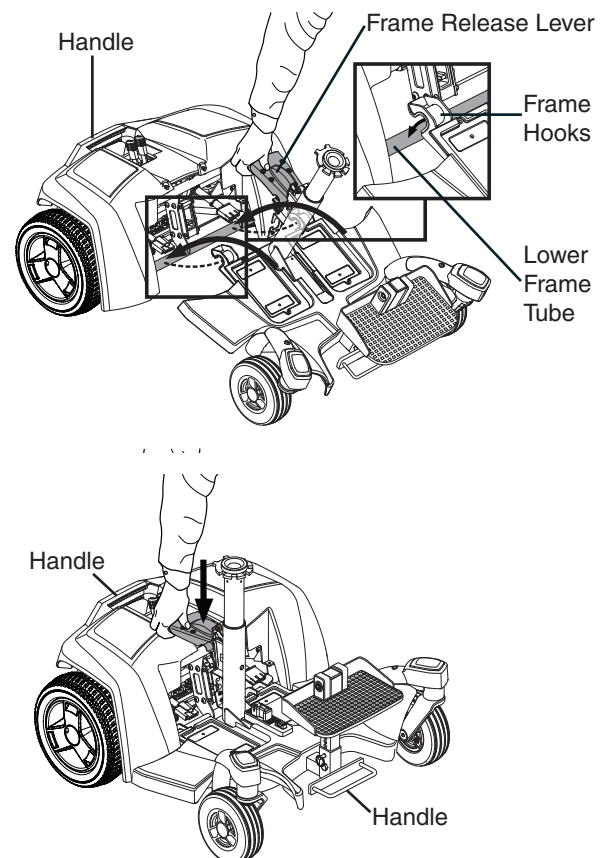

Figure 6. Kozmo Portable Assembly
1. Use the frame release lever to lift the front section as you align the frame hooks of the front section with the lower frame tube of the rear section. **See figure 6.**
2. Once the frame hooks are over the lower frame tube, lower the front section and pivot the rear section simultaneously. This will engage the frame lock-up automatically. **See figure 6.**